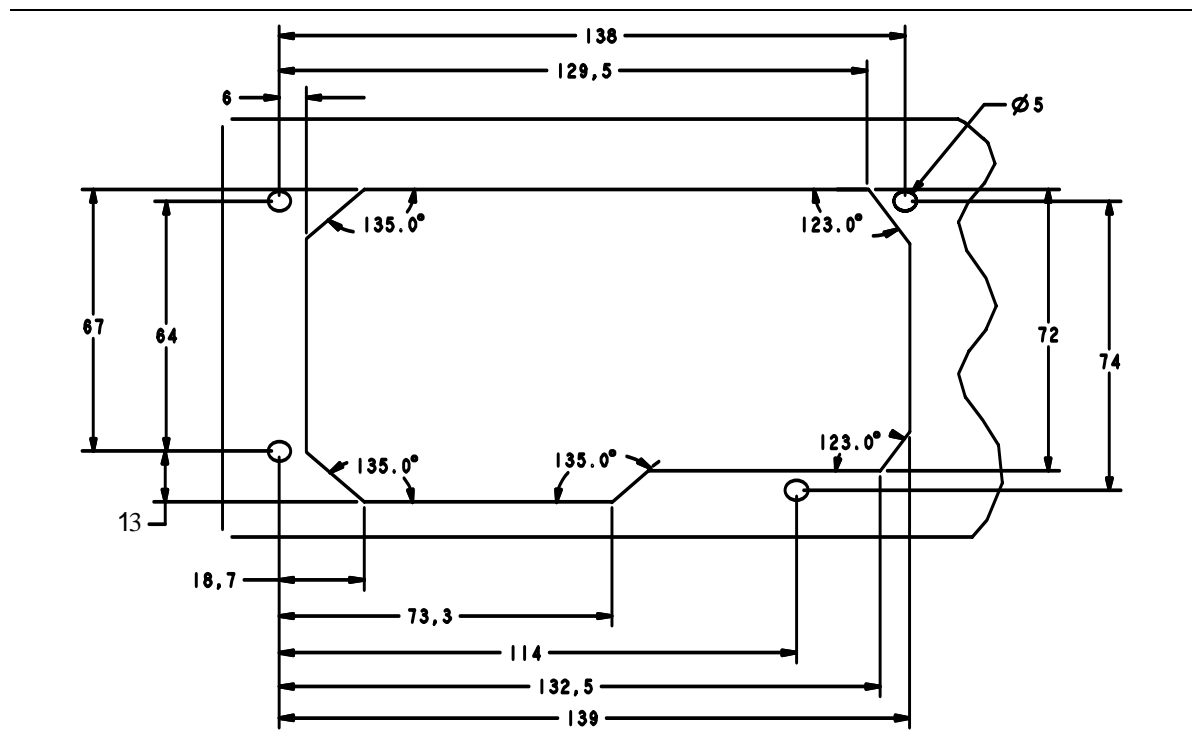
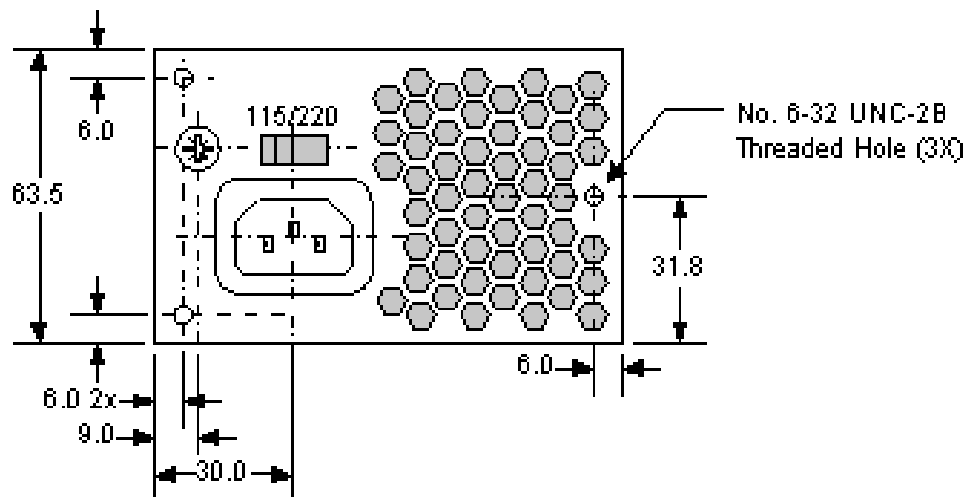

Figure 4: ATX Power Supply Mounting Holes
Figure 5: SFX Power Supply Mounting Holes
See Figure 4 and Figure 5.
| (I) ATX: Location of 4 external mounting holes (see Figure 4) | Yes <input type="checkbox"/> | No <input type="checkbox"/> |
| (I) SFX: Location of 3 external mounting holes (see Figure 5) | Yes <input type="checkbox"/> | No <input type="checkbox"/> |